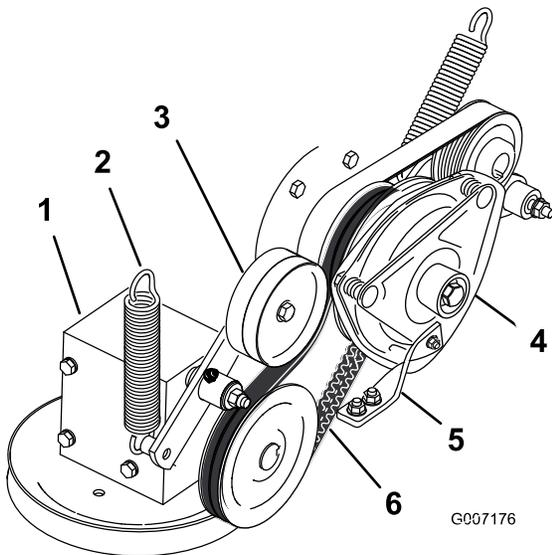

Figure 68
- Remove the spring from the idler arm (Figure 68).
- Install the PTO drive belt around the clutch pulley and the gearbox pulley (Figure 68).
- Install the spring to the idler arm (Figure 68).